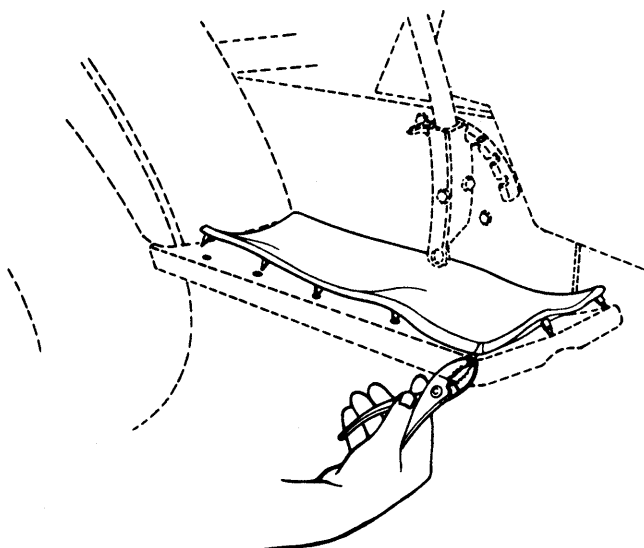

FIGURE 9.
1. **Optional foot pads:** If not already assembled, attach foot pads as follows. Position one foot pad on top of the running board on the tractor, lining up the studs on the bottom of pad with the holes in the running board. Pull the studs through the holes in the running board using a pair of pliers. Repeat on other side of tractor. See figure 9.